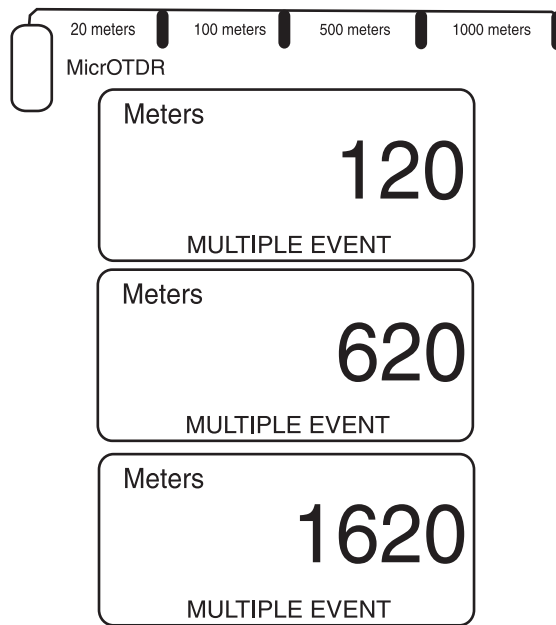

Figure 11
In the following example, there is an event that is *less* than 30 meters. The MicrOTDR will not recognize this particular event however; the MicrOTDR will recognize the subsequent events. Refer to Figure 11. In this example there will be three (3) events displayed. Event (1) will be display as 120 meters, event (2) will be displayed as 620 meters, and event (3) will be displayed as 1620 meters.